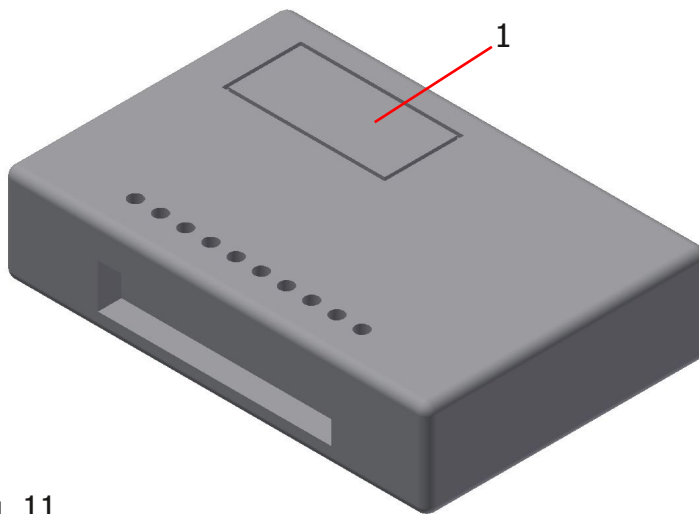

fig. 11
1. Remove the cover (Fig.11 No.1) on the radio receiver to access the programming buttons.
2. Press the left button (Fig.11 No.2). An LED (Fig.11 No.3) flashes slowly.
3. While holding down the programming button, press the first button on the handheld transmitter at the same time (Fig.12 No.4). The LED (Fig.11 No.3) now flashes quickly after the hand transmitter recognition.
1. Remove the cover (p.09 Fig.11 No.1) on the radio receiver to access the programming button.